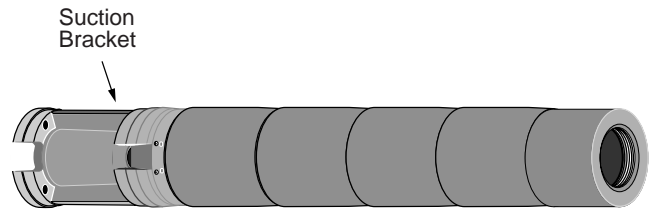

Figure 1: Disassemble pump, starting with suction bracket (left-hand threads).
2. Unscrew pump suction bracket (turn clockwise – left-hand threads!); remove bracket. See Figure 1.